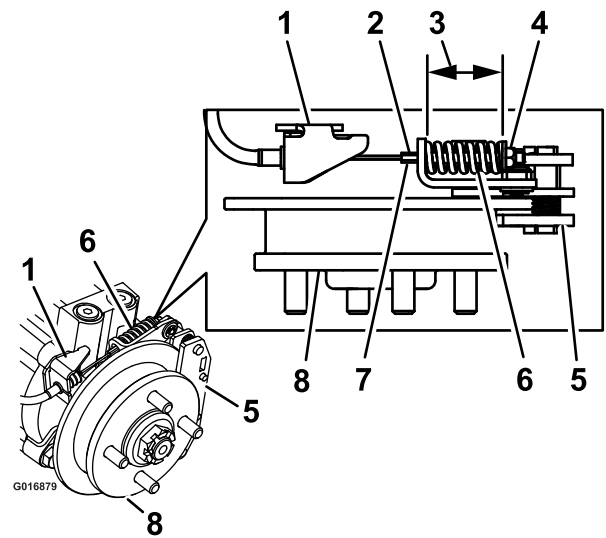

Figure 79
9. Hold the threaded rod end with a tool and adjust the locknut until the spring length is between 3.8 and 4.0 cm (1-1/2 and 1-9/16 inches); refer to Figure 79.